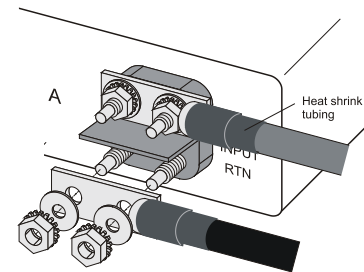

Figure 10 - Compression Lug Inputs
- d. Connect the lugs to Feed A and B input terminals on the back of the panel using the 1/4-20 KEPs nuts and washers provided, as shown in Figure 10.